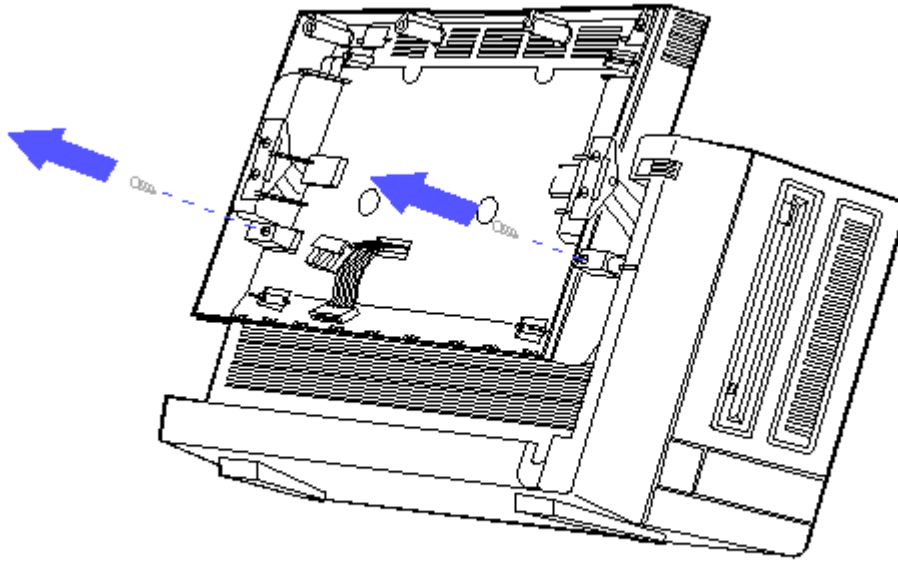

Figure 8-83. Removing the Mandrel Screws
6. Remove the one screw that secures each mandrel to the display enclosure (Figure 8-83).